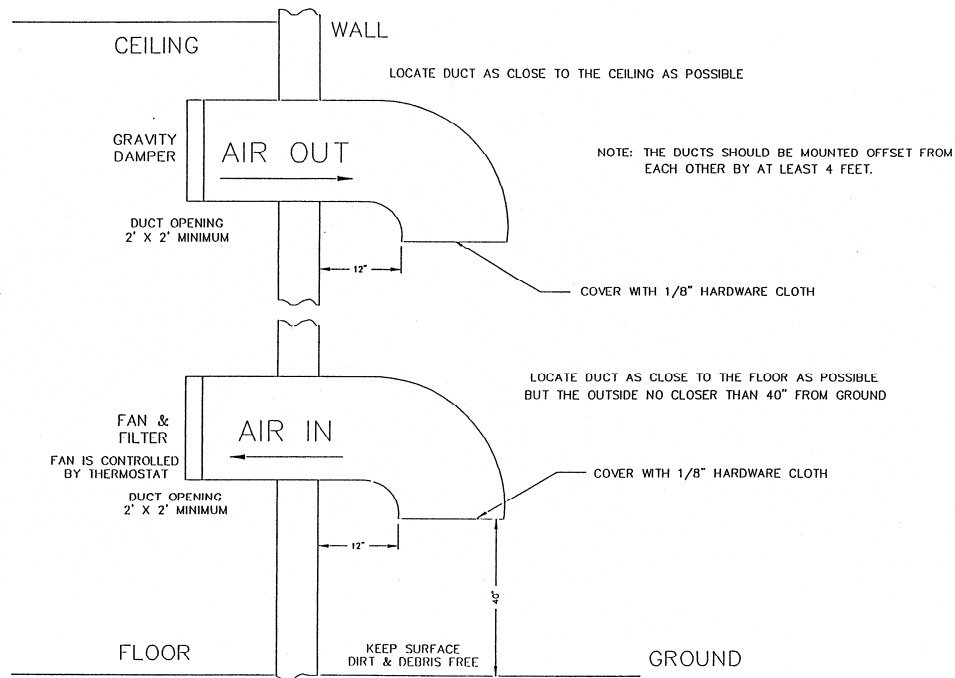

Figure 3-1. 1 kW Minimum Ventilation Configuration
- The information presented in this section is intended to serve only as a general guide and may need to be modified for unusually severe conditions. A combination of air conditioning and ventilation should not be difficult to design (see Figure 3-1). System interlocking and thermostat settings should be reviewed with Axcera. As with any equipment installation, it is always good practice to consult the manufacturer when questions arise. Axcera can be contacted at (724) 873-8100.